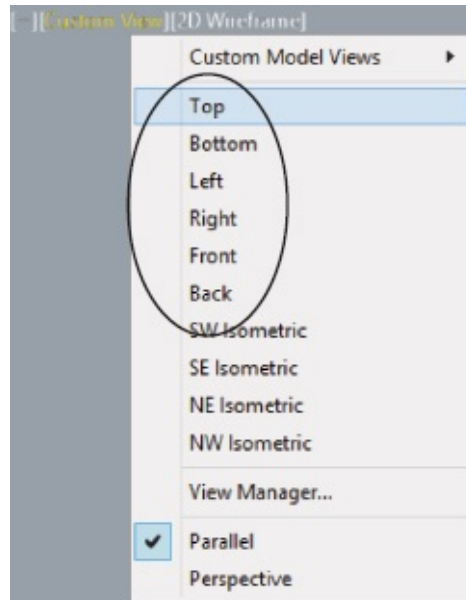

FIGURE 22.32 The 3D Navigation dropdown list
1. In the bracket .dwg file, open the 3D Navigation dropdown list in the in-canvas View Controls, and then click an orthogonal projection view from the list, such as Top, Left, or Right (see Figure 22.32). You can also use the 3D Navigation flyout in the Visualize tab's Views panel or use the ViewCube to select an orthogonal view. See Chapter 20 for more on the ViewCube.